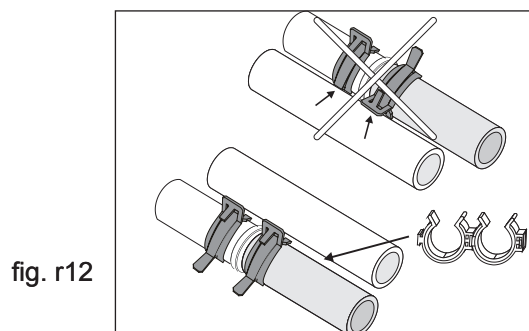

fig. r12
- avoid contact between the clips and other hoses alongside them (fig r12)